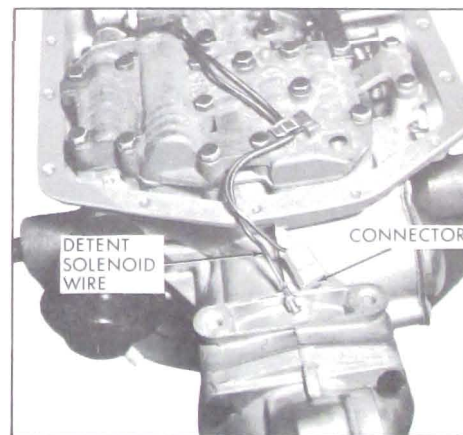

Figure 5-108
2. Remove detent solenoid wire from connector. See Figure 5-108.